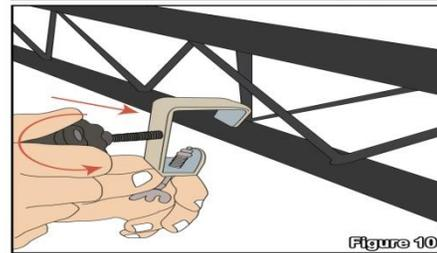

Figure 10
Step 6 – **Figure 10 and 11** shows how to mount the c-clamps provided and how to mount light fixtures.